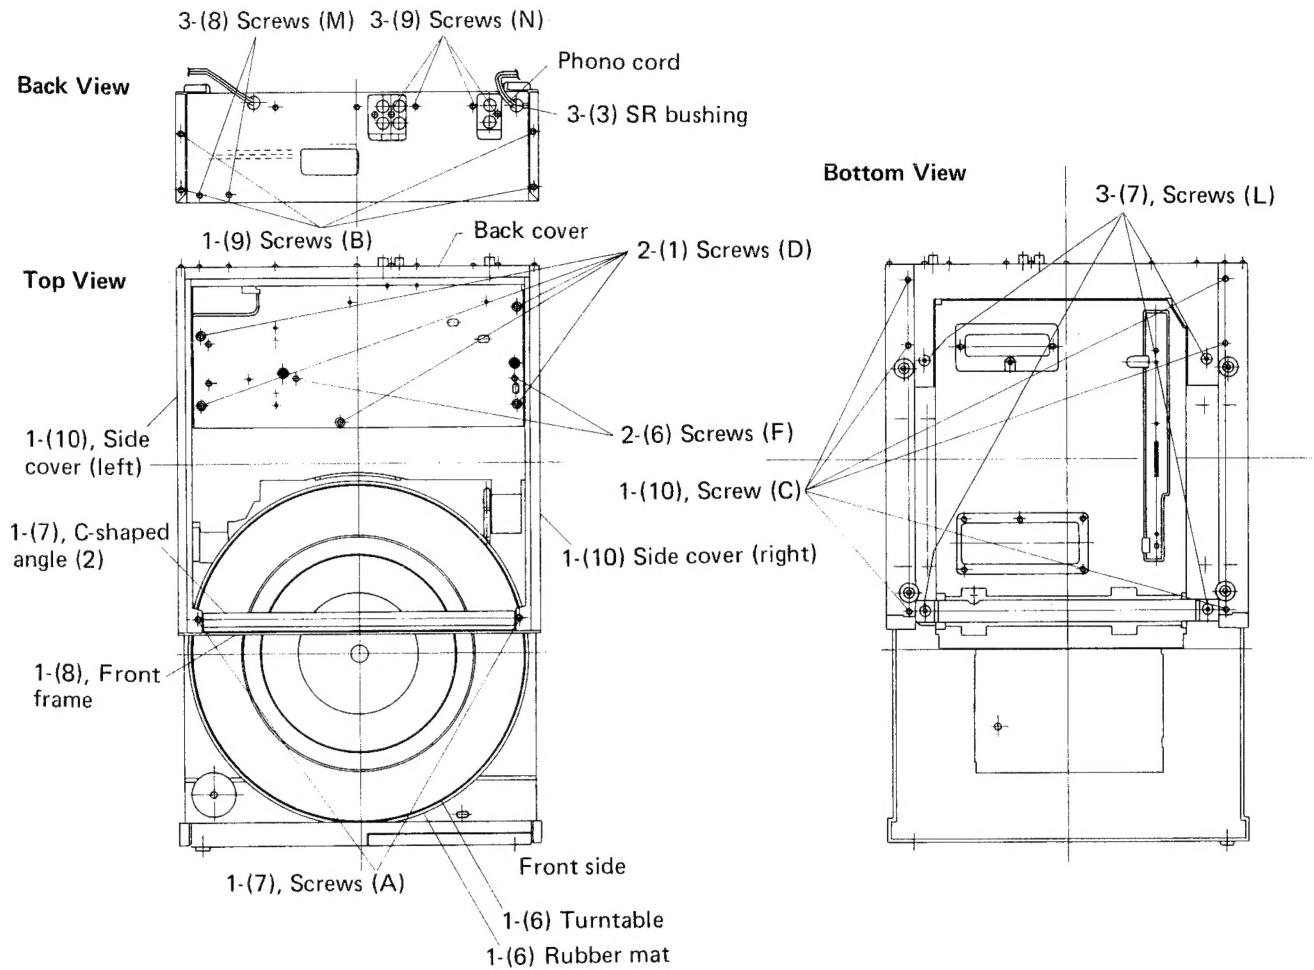
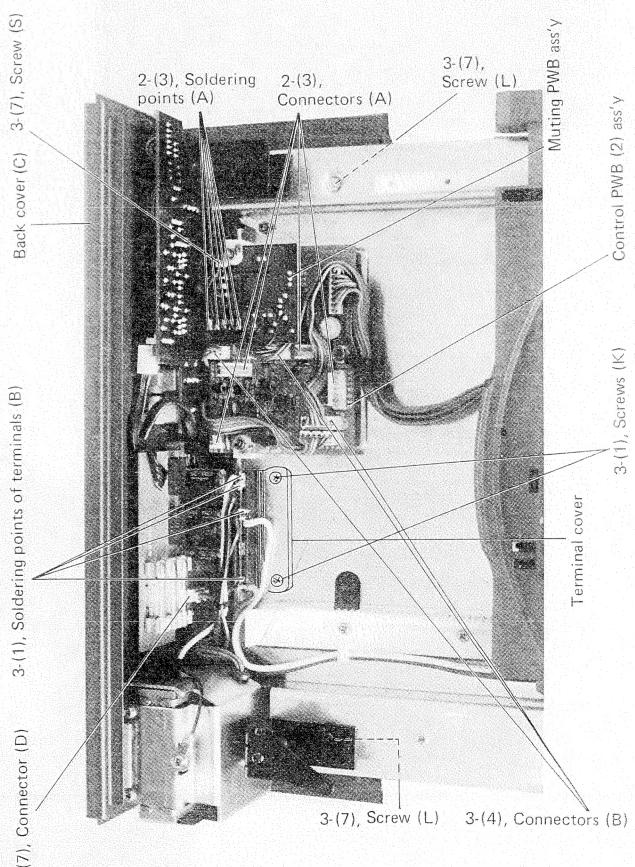

Fig. 1
Fig. 15
1). Disassembling Housings (See fig. 1)
- (1) Move tonearm base to the center of guide bar and then remove 5 pcs. of screws (D) from tonearm chassis. (See fig. 1, 2)
- 3. Remove 2 pcs. of screws (F) from bottom side of tonearm chassis. (See fig. 1, 2)
- (1) Unsolder 4 pcs. of terminals (B) and remove 2 pcs. of screws (K) from terminal cover. (See fig. 15)
- (2) Unsolder a grounding wire of back cover (C) from muting circuit ass'y. (See fig. 15)
- (3) Remove phono cord and SR bushing from back cover. (See fig. 1)
- (4) Disconnect connector (B) connected between back cover PWB and Control PWB (2). (See fig. 15)
- (5) Push down brush into cabinet.
- (6) Place turntable unit onto the table upside down.
- (7) Remove 2 pcs. of screws (L) from back cover so that the cover is disassembled. (See fig. 1, 15)
- (9) Remove 4 pcs. of screws (N) from back cover so that power supply PWB (2) is dismantled. (See fig. 1, 9)